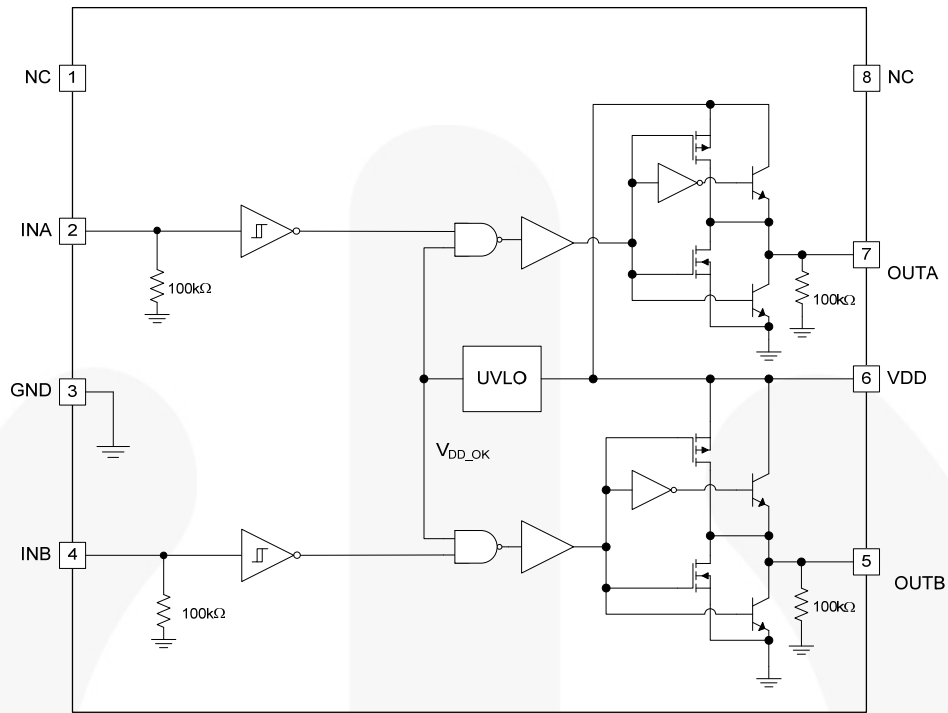
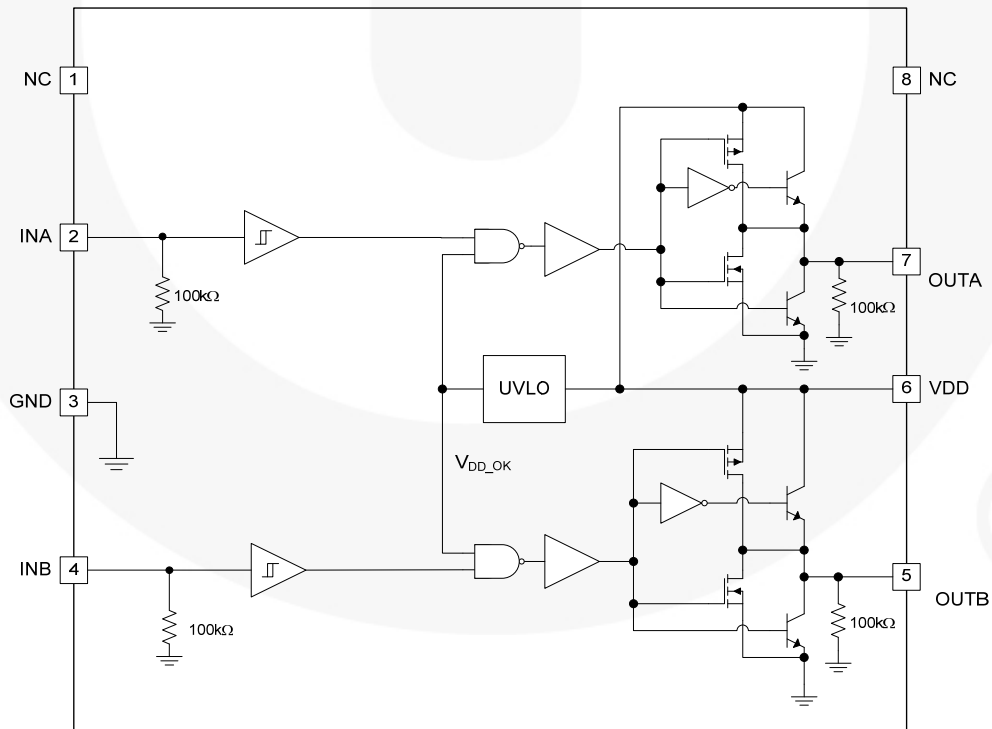

Figure 4. FAN3216 Block Diagram
Figure 5. FAN3217 Block Diagram
10. For any inverting inputs pulled LOW, non-inverting inputs pulled HIGH, or outputs driven HIGH; static I_{DD} increases by the current flowing through the corresponding pull-up/down resistor shown in Figure 4 and Figure 5.